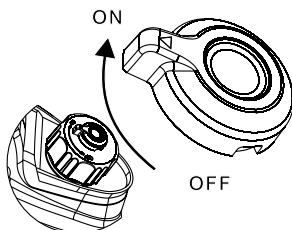

Figure 6: fuel tank vent
2. Turn the fuel tank vent to the **ON** position (see Figure 6).